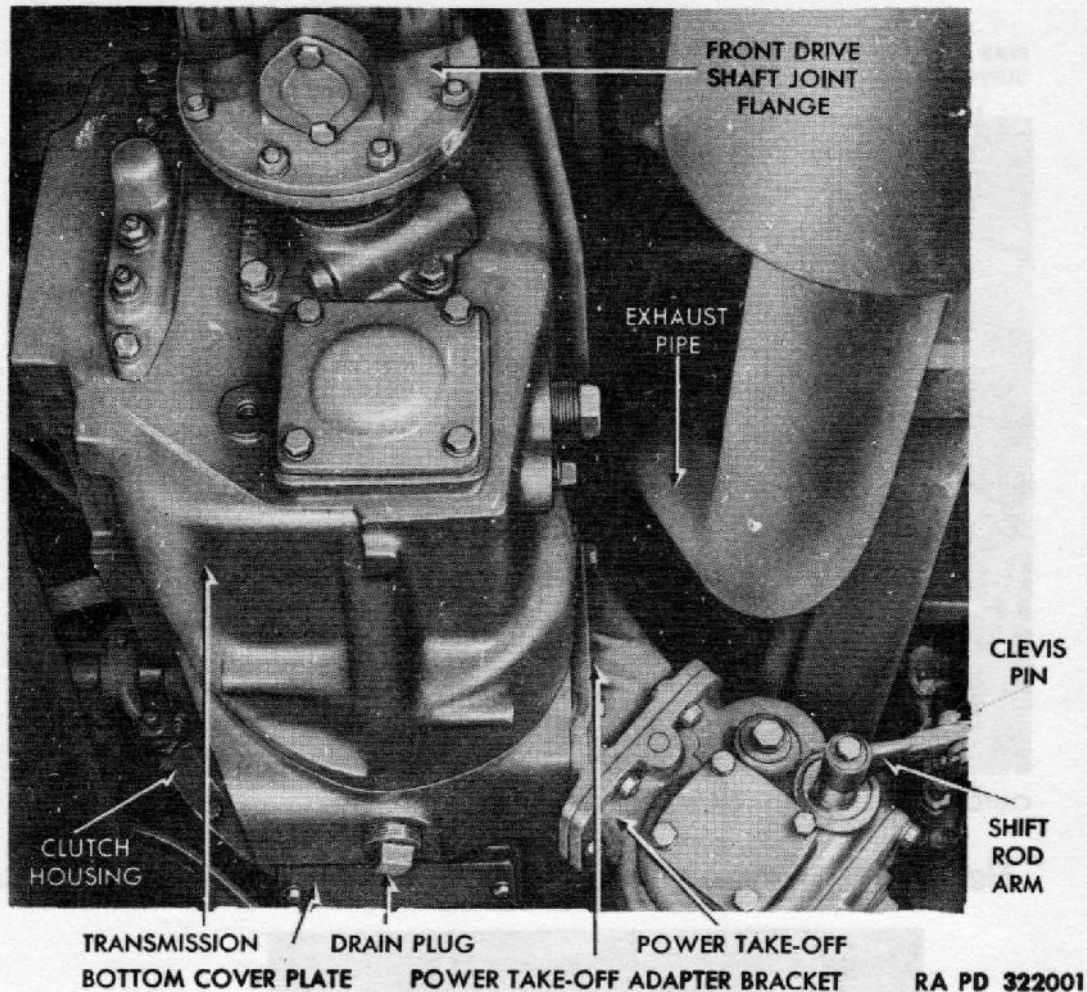

Figure 87 – Transmission Installed – Lower Rear View
a. **Disconnect Front Drive Shaft.** Disconnect front drive shaft by removing bolts, nuts, and lock washers from joint flange at front end of drive shaft (fig. 87). Move drive shaft to left side of vehicle, out of way of transmission.
c. **Disconnect Power Take-off Control.** Remove cotter pin and clevis pin from rear shift rod lower clevis (fig. 87).
f. **Disconnect Clutch Housing (fig. 87).** Remove cap screws and toothed lock washers which secure clutch housing to bell housing. Remove clutch housing bottom cover plate to reach lower housing cap screws. Upper two cap screws can be reached after removing control bracket support (subpar. 1 below).
j. **Connect Power Take-off Control** (fig. 87). Install rear shift rod lower clevis on shift rod arm. Install clevis pin and cotter pin.